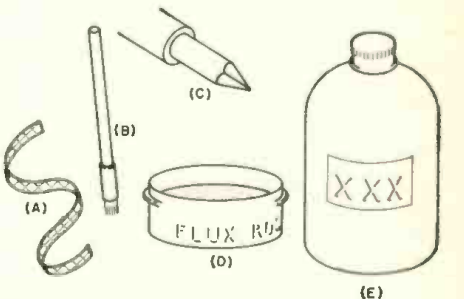

Fig. 3
The equipment needed to apply this technique is shown in Fig. 3. (A) is a piece of copper braid such as is found in coaxial or audio cables; (B) is a stiff, non-metallic bristled brush like a paste brush; (C) is a soldering iron of sufficient wattage rating to handle the job; (D) is paste or liquid non-corrosive solder flux; and (E) is a solvent. Experience will add personal-preference items to this list.